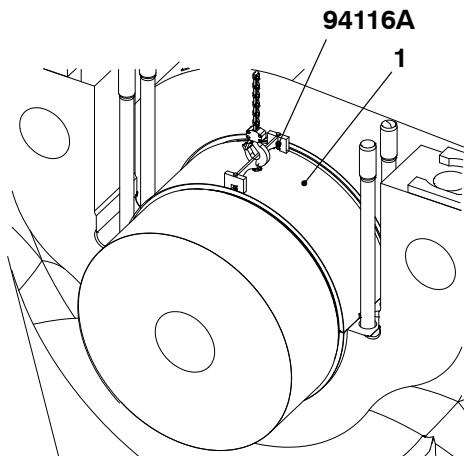
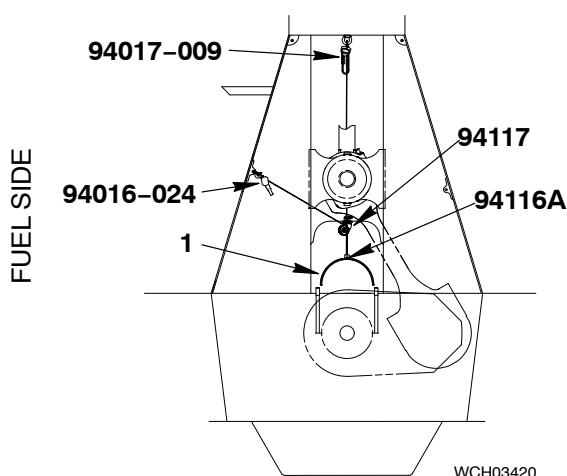

Fig. 19
Fig. 20
- 7) Operate the chain block (94017-009, Fig. 19) to turn the bearing shell (1) as shown in Fig. 13 and Fig.20.
- 10) Attach the lifting tool (94116A) to the bearing shell (1, Fig. 19).
- 13) Operate the manual ratchet (94016-024, Fig. 20) and the lifting tool (94116A) to lift the bearing shell (1).